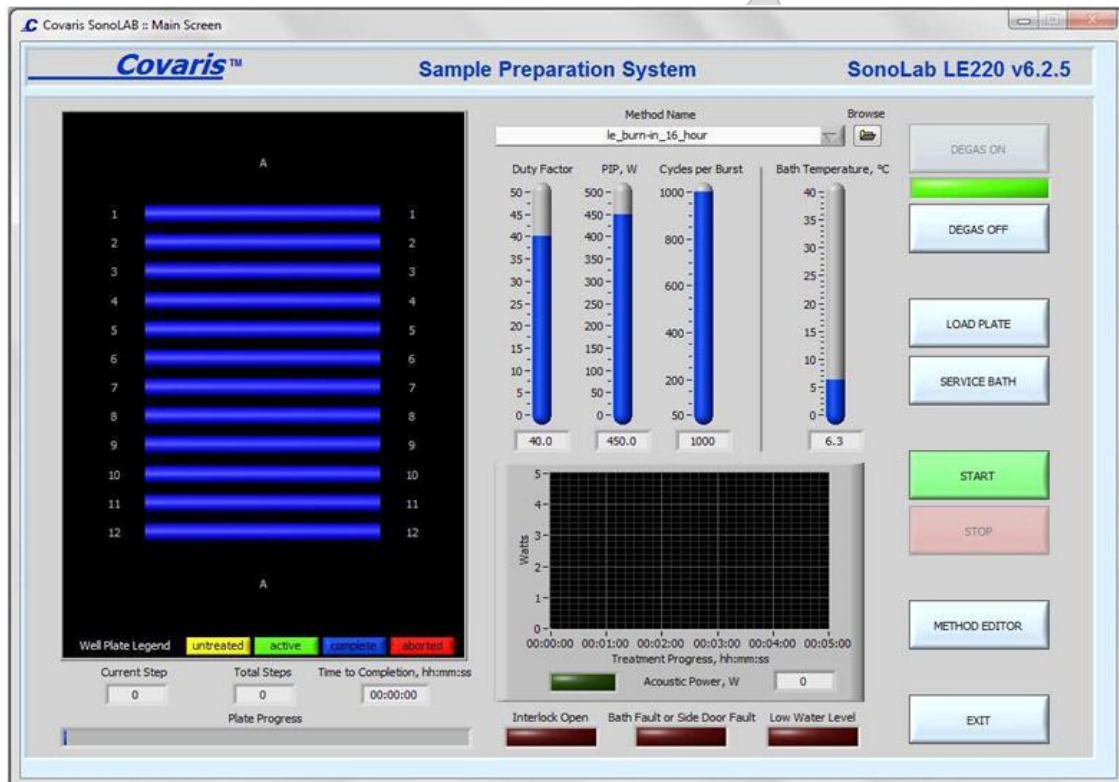

Figure 1: Covaris SonoLAB Main Screen
- 1.2. Ensure the transducer is already submerged and the required temperature for your program is achieved (the temperature readout as shown Fig 1 should be blue). Treatments cannot be run until the set point is reached.
- 1.3. You should see the program main window displayed. Confirm the “DEGAS ON” button is greyed out and the bar under it is lit green. You should see the degasser producing bubbles if on. If degassing is not on, click the “DEGAS ON” button so it looks like the image below. See Fig 1 below.
- 5.2. **Select** the library-specified treatment method by clicking the “**Browse**” button as shown in the upper right corner of **Fig 1** above. Each group has its own folder of methods. See folders: C:\Covaris\Clinical, Libcore, TechD or Archive. See “**Appendix A**” for program names that correspond to your samples and library strategy. Consult with your supervisor if you do not know which method to run.